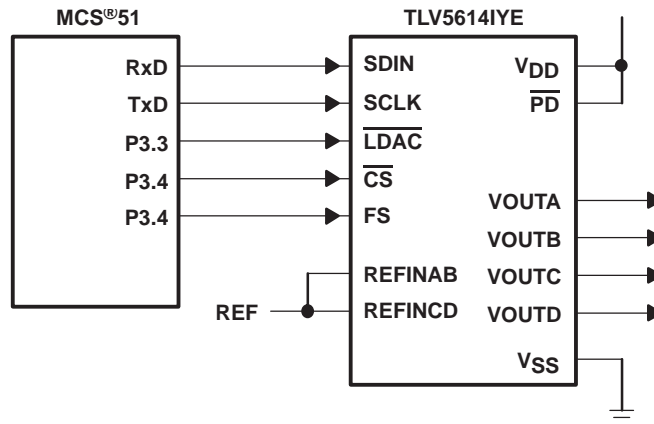

Figure 19. TLV5614IYE Interfaced With MCS[®]51
Figure 19 shows an example of how to connect the TLV5614IYE to an MCS[®]51 Microcontroller. The serial DAC input data and external control signals are sent via I/O Port 3 of the controller. The serial data is sent on the RxD line, with the serial clock output on the TxD line. Port 3 bits 3, 4, and 5 are configured as outputs to provide the DAC latch update ($\overline{\text{LDAC}}$), chip select ($\overline{\text{CS}}$) and frame sync (FS) signals for the TLV5614IYE. The active low power down pin ($\overline{\text{PD}}$) of the TLV5614IYE is pulled high to ensure that the DACs are enabled.